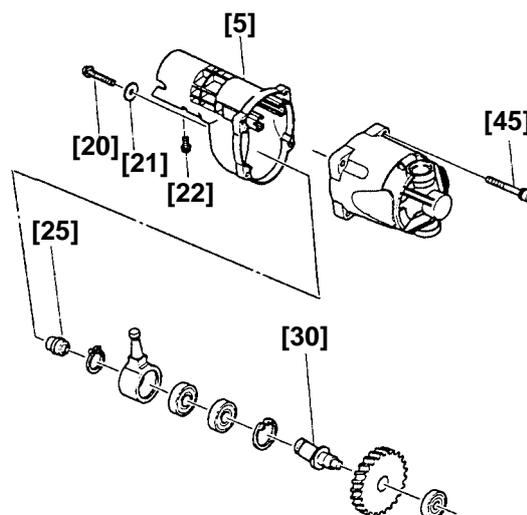

Fig. 2
##### (2) Removal of Gear Cover (B) **[5]** (Figs. 2 and 3)